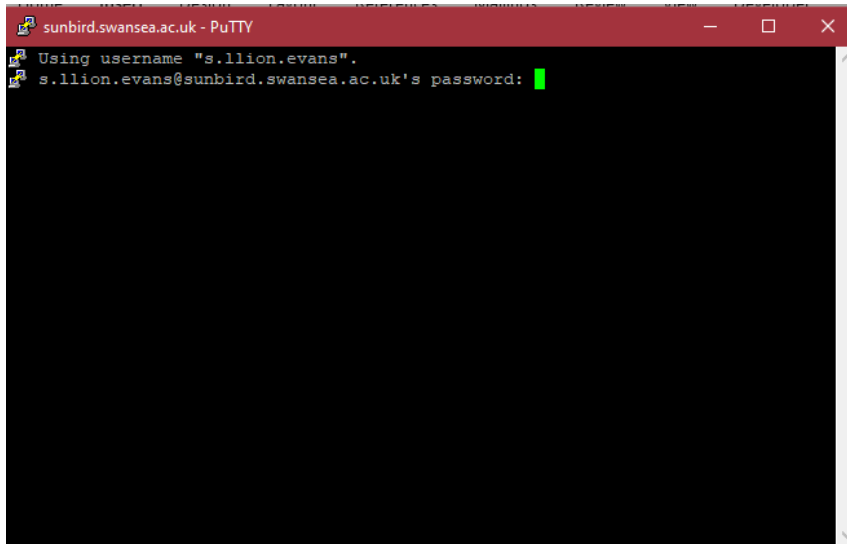

Figure 6. Command line interface (CLI).
- d. This will open a CLI. Enter your password when requested, see Figure 6.